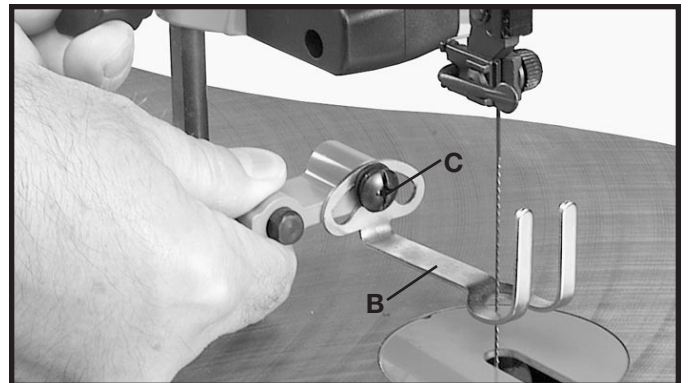

Fig. 12
When bevel cutting, the holddown (B) Fig. 12, can be adjusted to lay flat on the stock by loosening screw (C) and tilting the holddown (B). Then tighten screw (C).